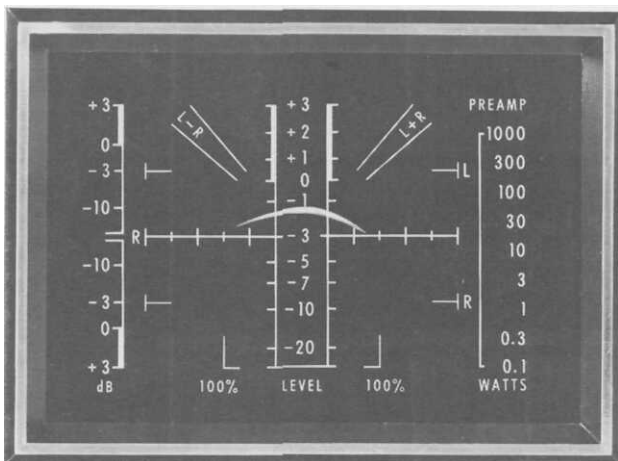

FIG. 13 MULTIPATH FREE DISPLAY
23. Adjust the top panel DEVIATION control to obtain the pattern shown in Figure 13.
Multipath free reception is shown in Figure 13. The trace is formed by a combination of signal strength and modulation (or loudness of the program material). Since signal strength raises the pattern in a vertical direction, the higher the trace, the stronger the station. A powerful local station can be expected to bring the trace to about ½- or ¾-inches below the top of the screen. Weak stations produce lower heights on the screen.